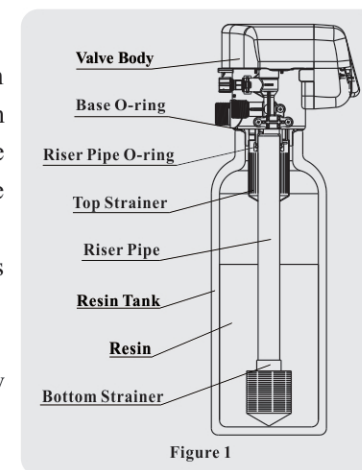

Figure 1
- ①The filter or softener should be located close to drain.
- ②Ensure the unit is installed in enough space for operating and maintenance.
- ③Brine tank need to be close to softener.
- ④The unit should be kept away the heater, and not be exposed outdoor. Sunshine or rain will cause the system damage.
- ⑤Avoid to install the system in circumstance of Acid/Alkaline, magnetic or strong vibration, because above factors will cause the system disorder.
- ⑥Do not install the filter or softener, drain pipeline in circumstance which temperature may drop below 5℃, or above 50℃.
- ⑦One place is recommended to install the system which cause the minimum loss in case of water leaking.
①Install control valve
- As the Figure 1 shows, select the riser pipe with 26.7 mm OD, glue the riser pipe to the bottom strainer and put it into the resin tank, cut off the exceeding tube out of tank top opening. Plug the riser tube in case of mineral entering.